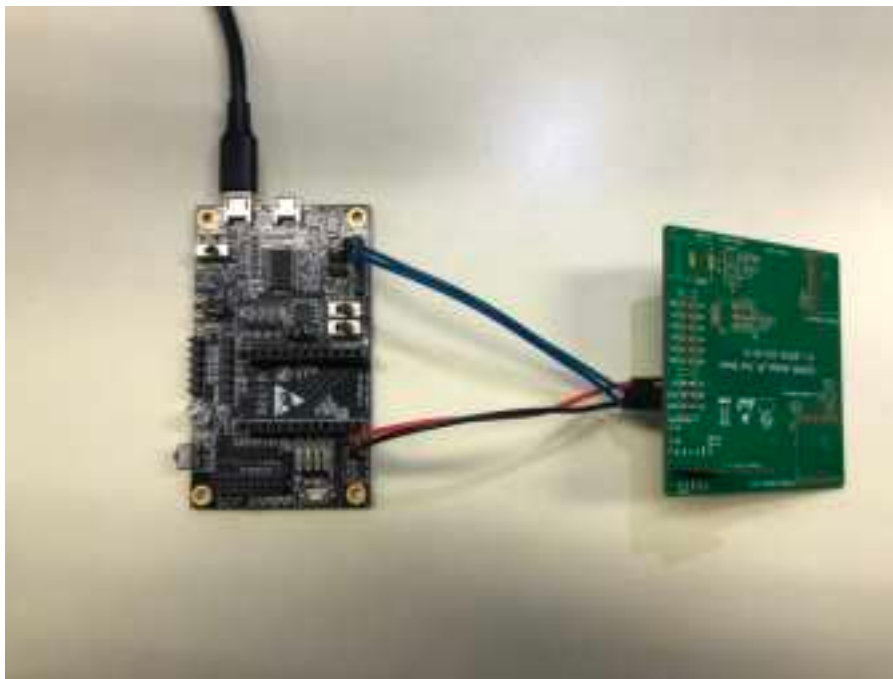

Figure 2: Hardware Connection
1. Solder the ESP8685-WROOM-07 module to the RF testing board as shown in Figure 2.